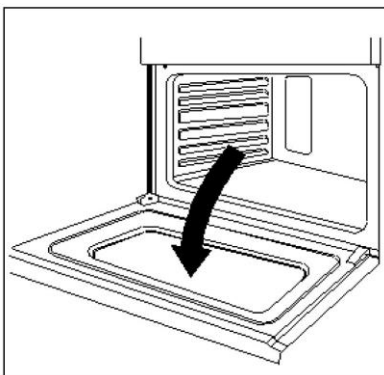

Figure 7
1. Open the door fully (See Figure 7)